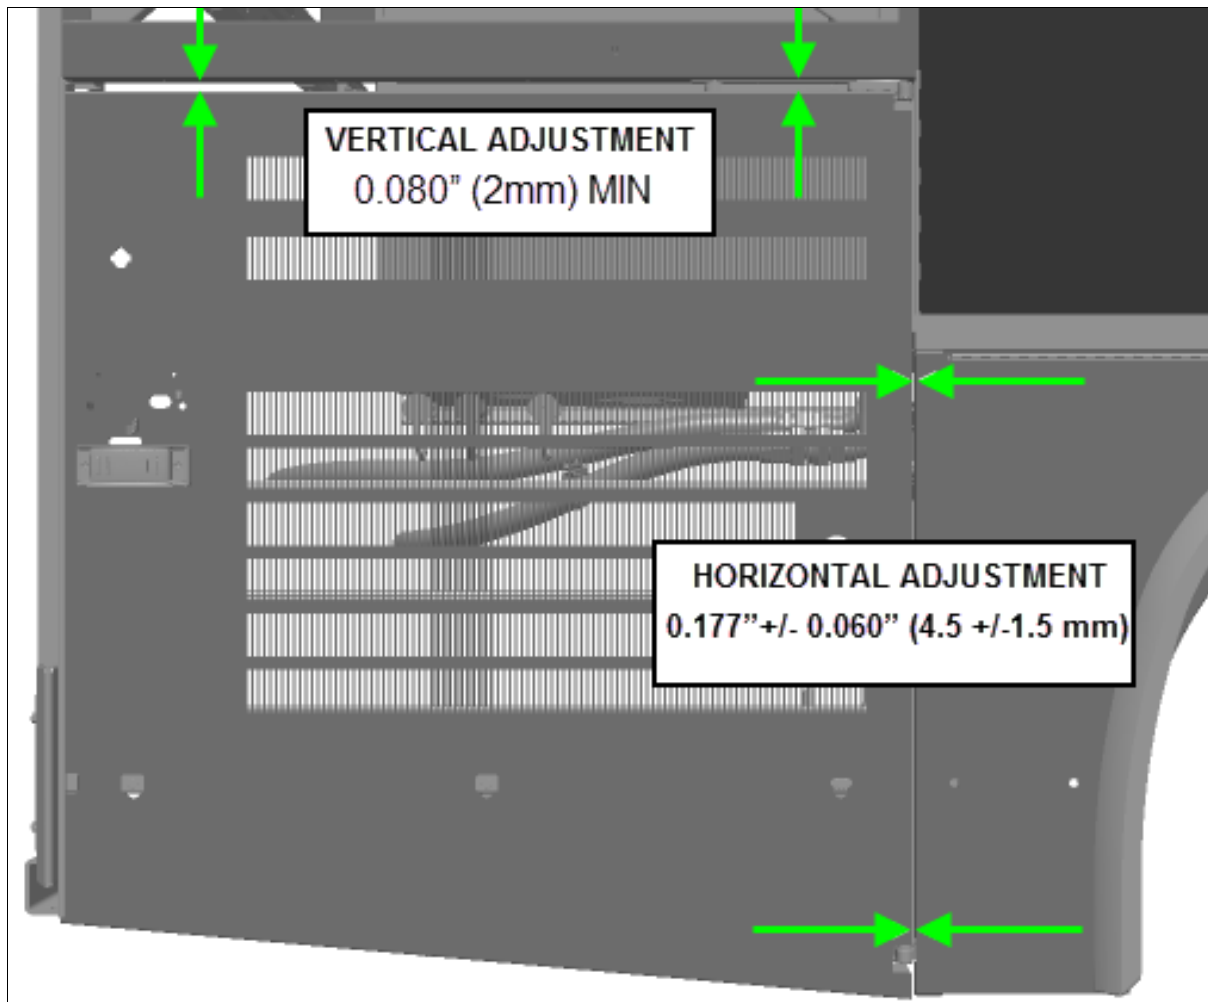

FIGURE 25: COMPRESSOR DOOR HORIZONTAL & VERTICAL GAPS
17. Remove door support installed at step 2 and open and close the door several times to make sure it is working properly, check door top and side adjustments. There should be an even (parallel) gap of at least 0.080" (2mm) at the top of the door and a 0.177" +/- 0.060" (4.5 +/- 1.5 mm) gap between the door and the vehicle rear fender (Figure 25).